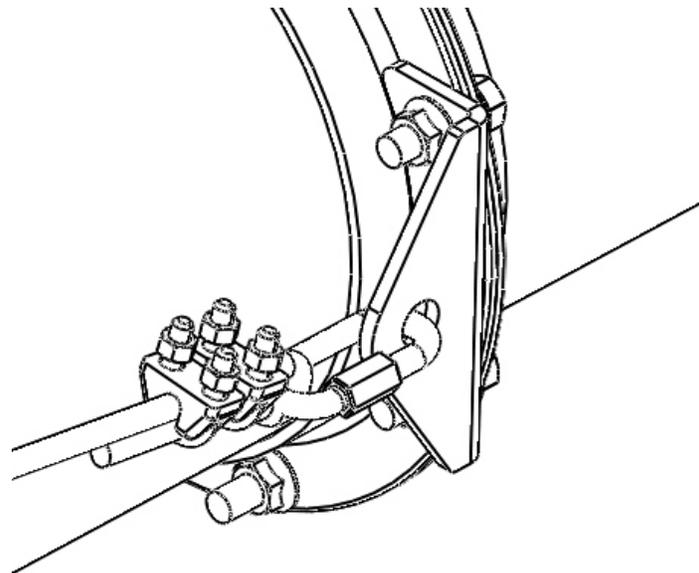

Fig. 25.3
Locate the 41 foot cables. Attach cable to eyebolts on the left & right side cable truss mount brackets. Attach using the same process specified in step 24. Put the cable through the cable clamps located on the 2nd & 3rd truss. When the cable is through both cable clamps, continue pulling the cable to the quick link located on the joint on the end of the 3rd tube. Secure using (2) 3/8" cable clamps as shown in fig. 25.3. Repeat on opposite side of the auger.